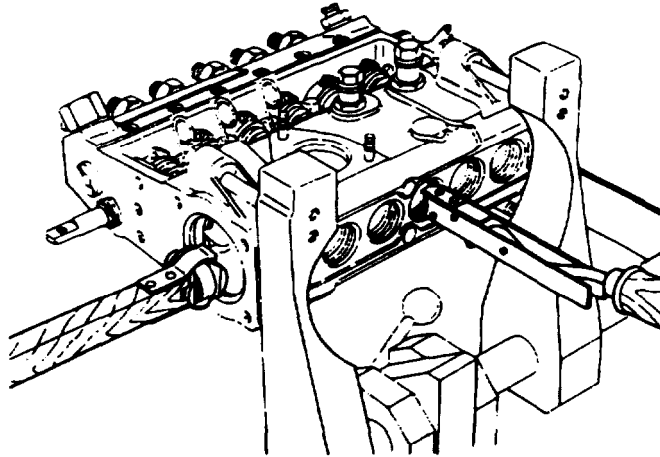

FIGURE 3-30. Inserting Tappet
- n. Hold tappet (23, FIGURE 3-8) with clamp (157931-6120). Align tappet guide with pump housing guide groove and insert tappet (23) and spacer ring (26) through camshaft opening, refer to FIGURE 3-30.